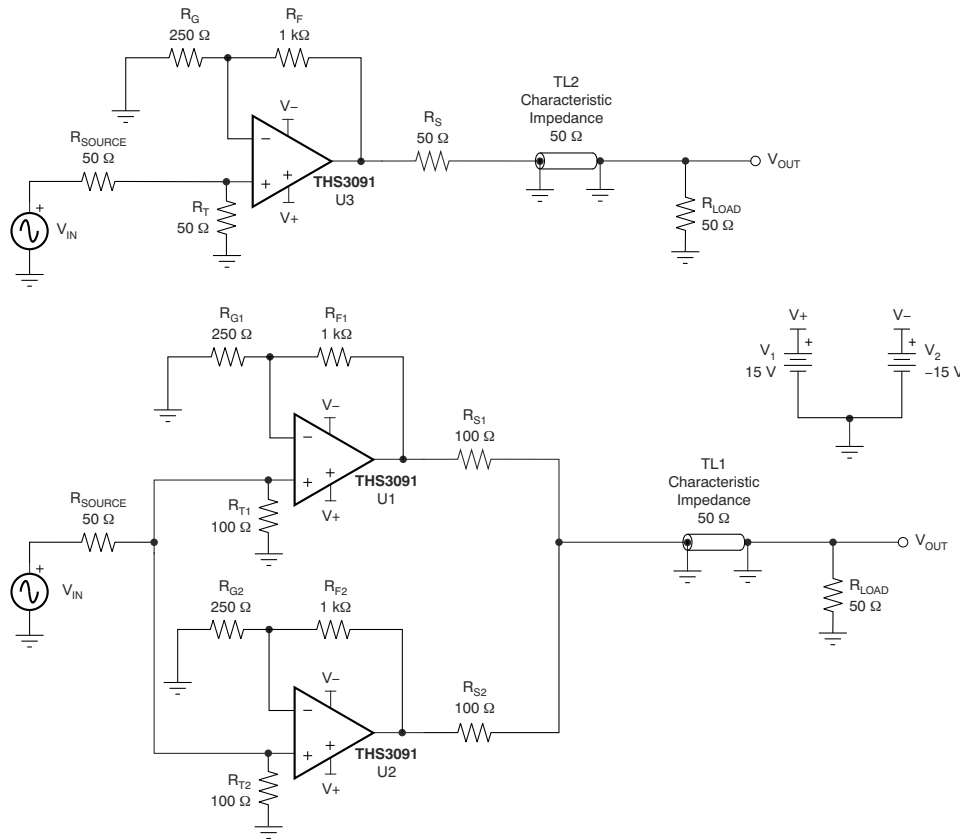

Figure 9-1. Reference THS3091 and THS3091 Load Sharing Test Configurations
The fundamental concept of load sharing is to drive a load using two or more of the same operational amplifiers. Each amplifier is driven by the same source. Figure 9-1 illustrates the schematic for this design. This concept effectively reduces the current load of each amplifier by $1/N$, where N is the number of amplifiers. For further details on the design and performance of this circuit, see the Reference Design for Implementation of the Load Sharing Concept for Large-Signal Applications.
As shown in Figure 9-1 for example, in a two-amplifier load sharing configuration with matching resistance driving a resistive load (RL), each series resistance is 2×RL and each amplifier drives 2×RL. A convenient indicator of whether an op amp will function well in a load sharing configuration is the characteristic performance graph of harmonic distortion versus load resistance. Figure 7-9 and Figure 7-10 show more information. Such graphs can be found in most of TI's high-speed amplifier data sheets. These graphs can be used to obtain a general sense of whether or not an amplifier will show improved distortion performance in load sharing configurations.
Figure 9-1 shows two test circuits: one for a single THS3091 amplifier driving a double-terminated (50-Ω cable), and one with two THS3091 amplifiers in a load sharing configuration. In the load sharing configuration, the two 100-Ω series output resistors act in parallel to provide 50-Ω back-matching to the 50-Ω cable.
Figure 9-4 and Figure 9-5 show the 64-MHz sine wave outputs of the two configurations from Figure 9-1. While the single THS3091 output is clearly distorted in Figure 9-4, the output of the load sharing configuration in Figure 9-5 shows only minor deviations from the ideal sine wave.